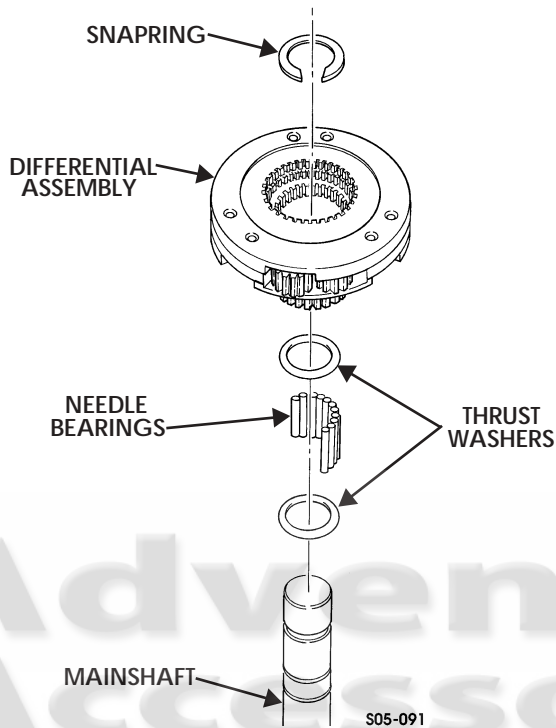

Figure 5-144: Differential Assembly
35. Remove snapping and differential assembly from mainshaft (Figure 5-144).